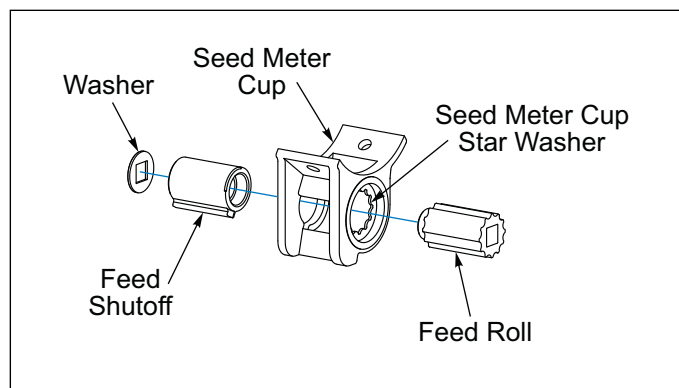

Figure 4-8: Small Seed Meter
3. Individual Seed Meter Cups can be adjusted as required. Adjustments can be made by loosening the 1/4-20 x 5/8 Machine Screws that mount the Seed Meter Cup to the Seed Box. Adjust the affected Seed Meter Cup so the Feed Shutoff is against the Seed Meter Cup Star Washer in the Seed Meter Cup (closed). Be sure the Feed Roll stays engaged in the Seed Meter Cup Star Washer. **See Figure 4-8.**